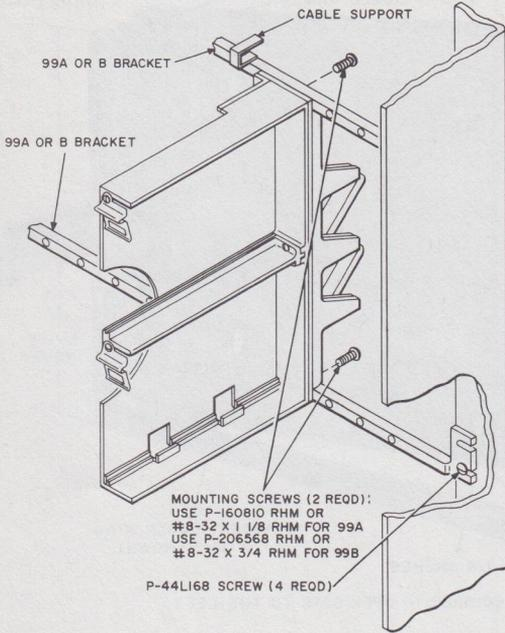

Fig. 7—69-Type Apparatus Mounting on a 99A (MD) or 99B Bracket
by using a 99A (MD) or 99B bracket. The 99-type bracket consists of two 23-inch bars which mount on the 16C apparatus mounting frame. The upper bar has cable supports to retain the connector cables. Fig. 7 shows a 69-type apparatus mounting on a 99-type bracket. Mounting screws for the 99B bracket are furnished loose. Screws for the 99A bracket are ordered separately.